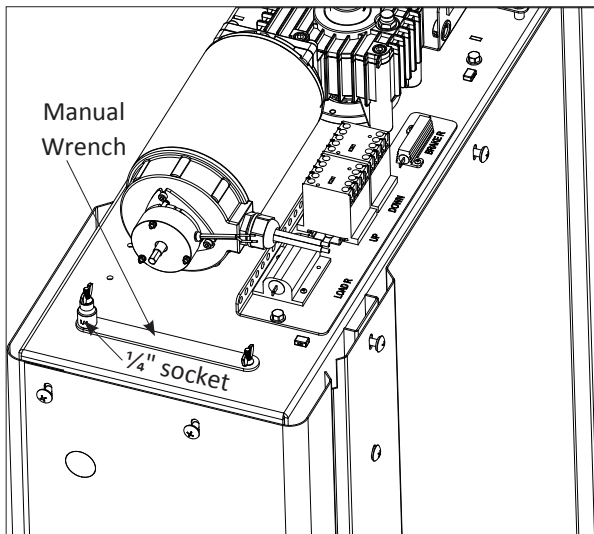

Figure 6-9
3. Remove the two wingnuts holding down the manual lowering tools ($\frac{1}{4}$ " wrench and $\frac{1}{4}$ " x $\frac{3}{8}$ " drive socket). **See Figure 6-9.**